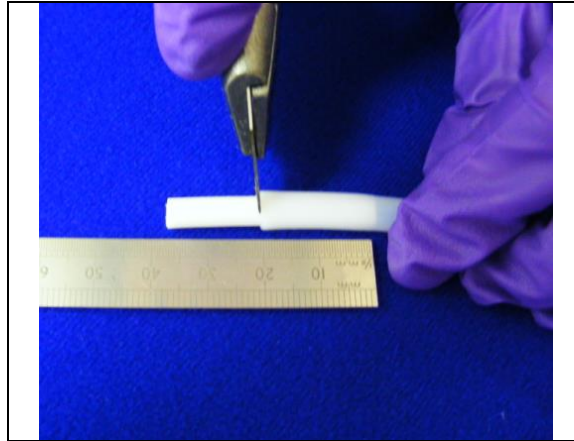

Figure 4: Cutting the PTFE rod
- 5 Using a sharp knife cut the rod flush with the end of the tubing (Figure 4).